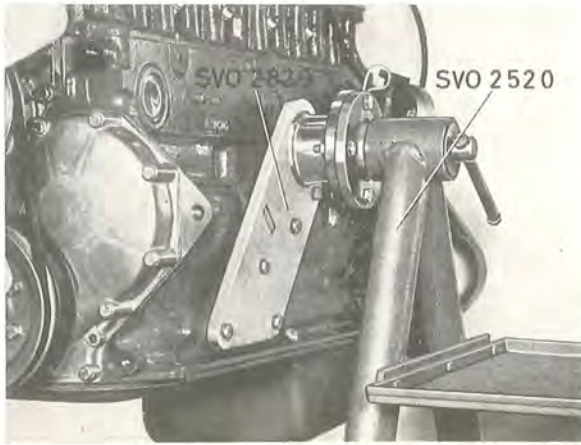

Fig. 2-14. Engine in stand
1. Place the engine on stand SVO 2520 with fixture SVO 2820. See Fig. 2-14. Check that the oil has been drained off.